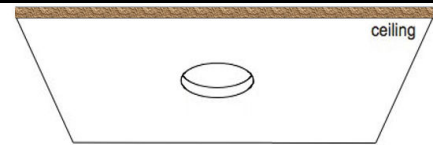

Fig.2
- Drill the hole of cutout as dimension (Fig-1) at the installation place (Fig2).